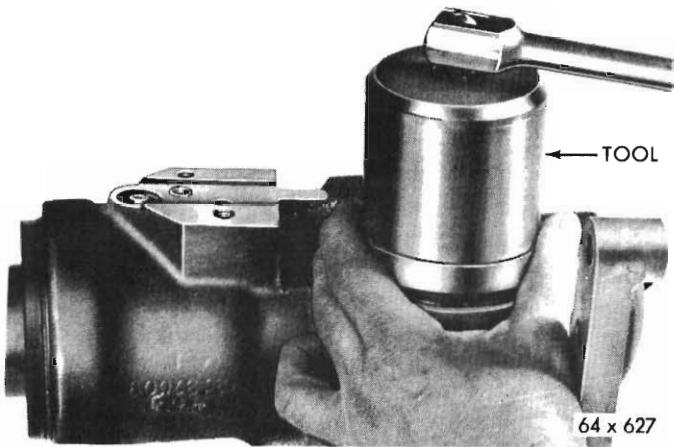

Fig. 10 – Removing gear shaft cover retaining nut
(5) Loosen the gear shaft adjusting screw lock-nut and remove the gear shaft cover nut with Tool E19C20B (Fig. 10).